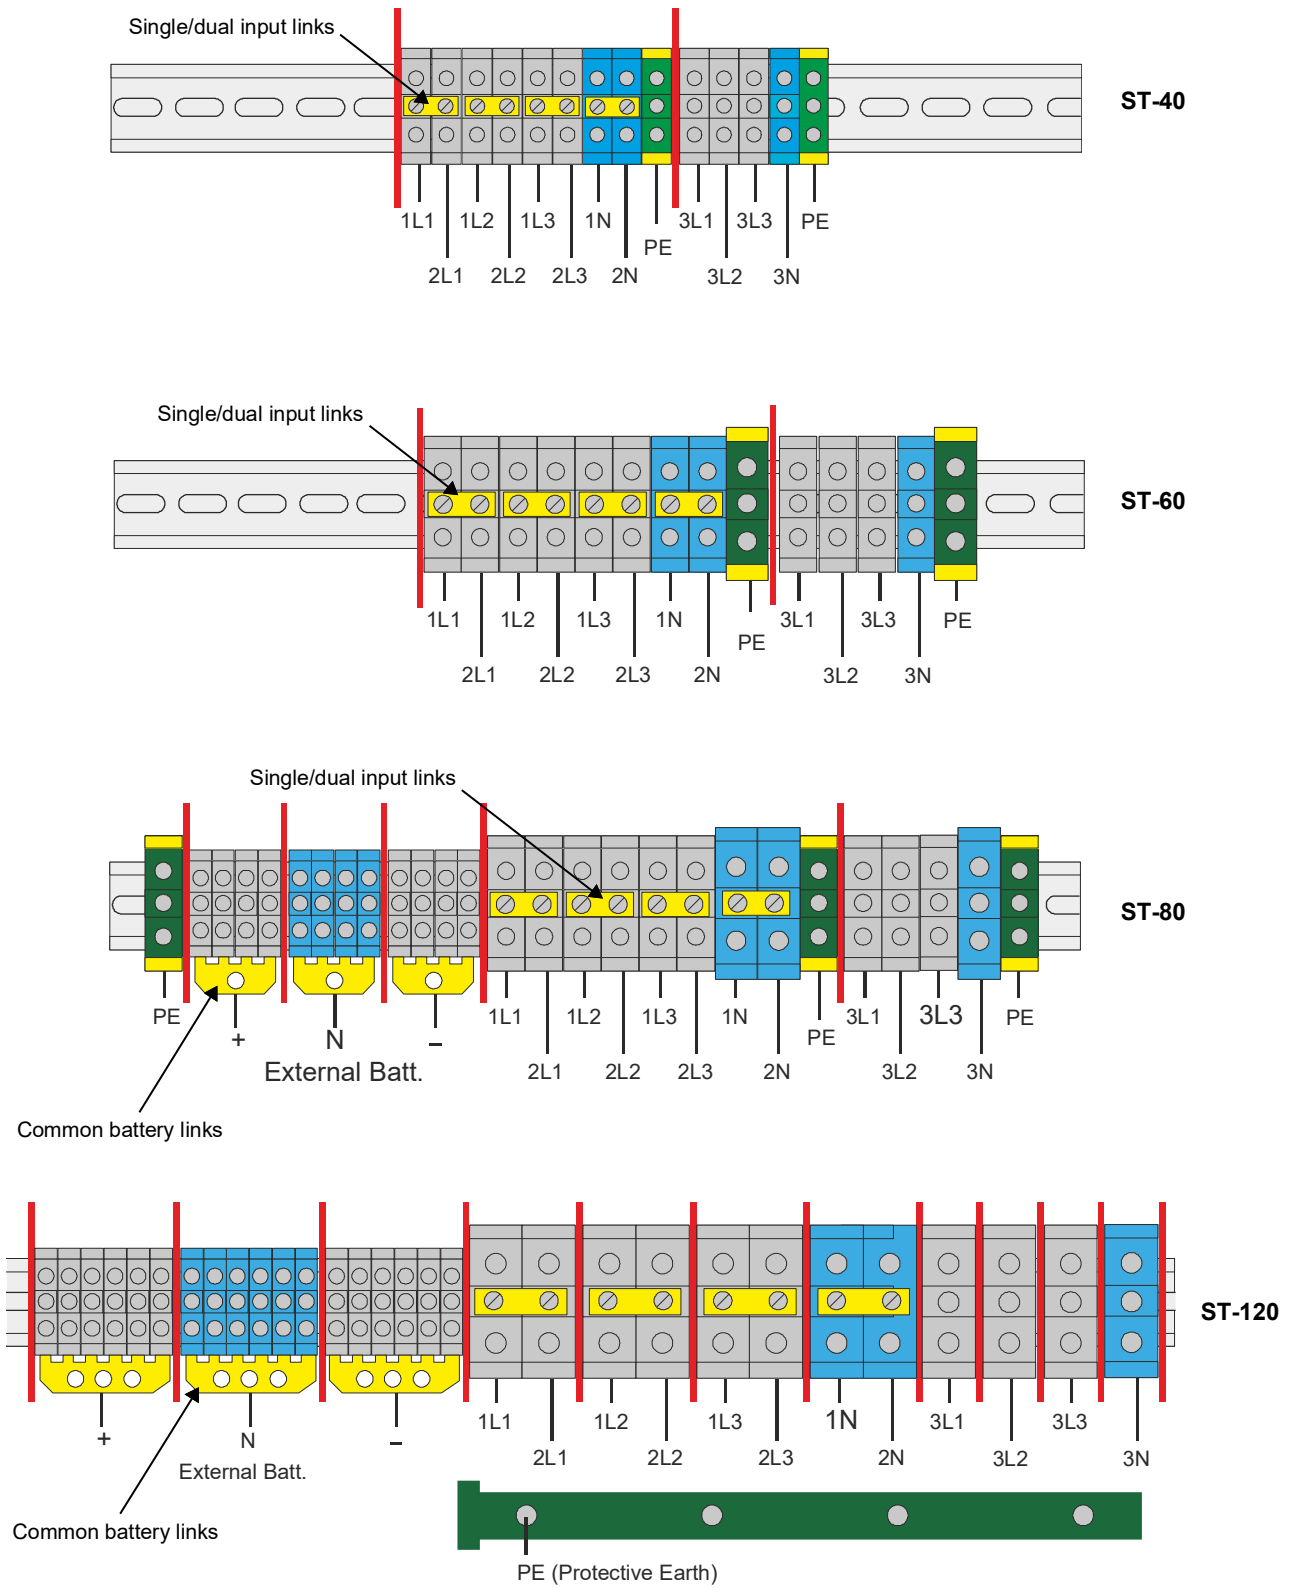

Figure 4.6 ST-40, ST-60, ST-80, ST-120 Power terminal connections
1. Connect an earth cable from the input mains switchboard to the UPS protective earth terminal (PE).
2. If an external battery cabinet is used, connect an earth cable between the battery cabinet and the UPS battery earth terminal (PE).
3. Ensure the single-feed links, shown in yellow in Figures 4.6 and 4.7, between the input mains terminals and bypass mains terminals (i.e. 1-L1 to 2-L1, 1-L2 to 2-L2, 1-L3 to 2-L3, 1N to 2N) are fitted.
2. If the bypass mains supply is obtained from a different mains switchboard to the input mains supply, connect an earth cable from the bypass mains switchboard to the protective earth terminal (PE).
3. If an external battery cabinet is used, connect an earth cable between the battery cabinet and the UPS battery earth terminal (PE).
4. Remove the single-feed links (if fitted) between 1-L1 to 2-L1, 1-L2 to 2-L2 and 1-L3 to 2-L3, shown in yellow in Figures 4.6 and 4.7. Leave the neutral link connected between 1N and 2N.